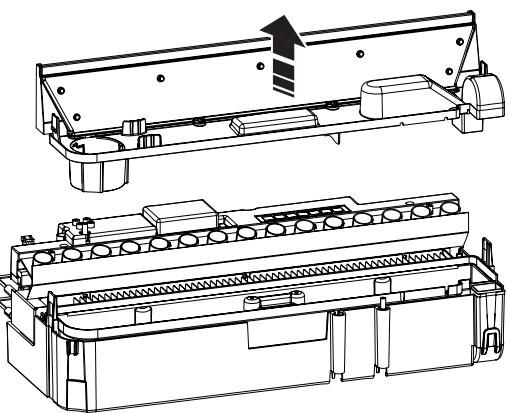

Fig 29
Tank cap and seal (Fig 11/37), Nozzle (Fig 29), Transducer (Fig 30), Sump (Fig 31) & Air filter (Fig 32).
5. There are two orange clips holding down the nozzle on the sump; one on the left and one on the right hand side of the nozzle. On the left side, press in the clip with one hand and with the other lift the nozzle out of the clip. Repeat this for the right side (Fig 28). The nozzle can now be lifted up and placed aside (Fig 29).